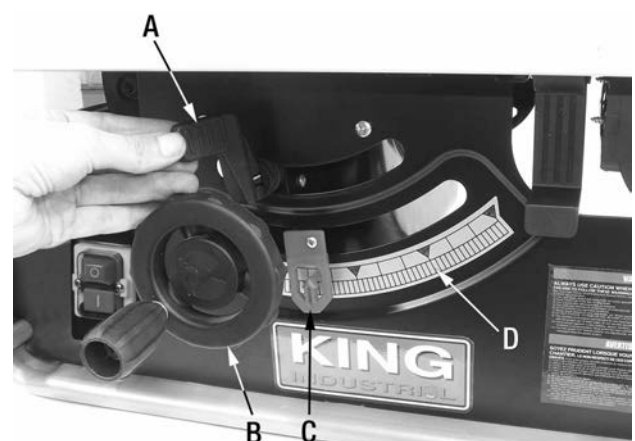

FIGURE 15
1. Turn the elevation handwheel (B) Fig.15 counterclockwise to raise the blade or clockwise to lower the blade.
1. Unlock the bevel locking lever (A) Fig.15 by pulling the lever all the way to the right.
2. Move the entire handwheel (B) to the right to adjust the blade bevel angle, use the pointer (C) and angle scale as reference.
3. Once the desired bevel angle is achieved, lock the bevel locking lever (A) by pushing the lever all the way to the left.
2. Unlock the bevel locking lever (A) Fig.15 by pulling the lever all the way to the right. Move the handwheel (B) Fig.15 until the blade is set at a perfect 90° to the square. Lock the bevel locking lever.